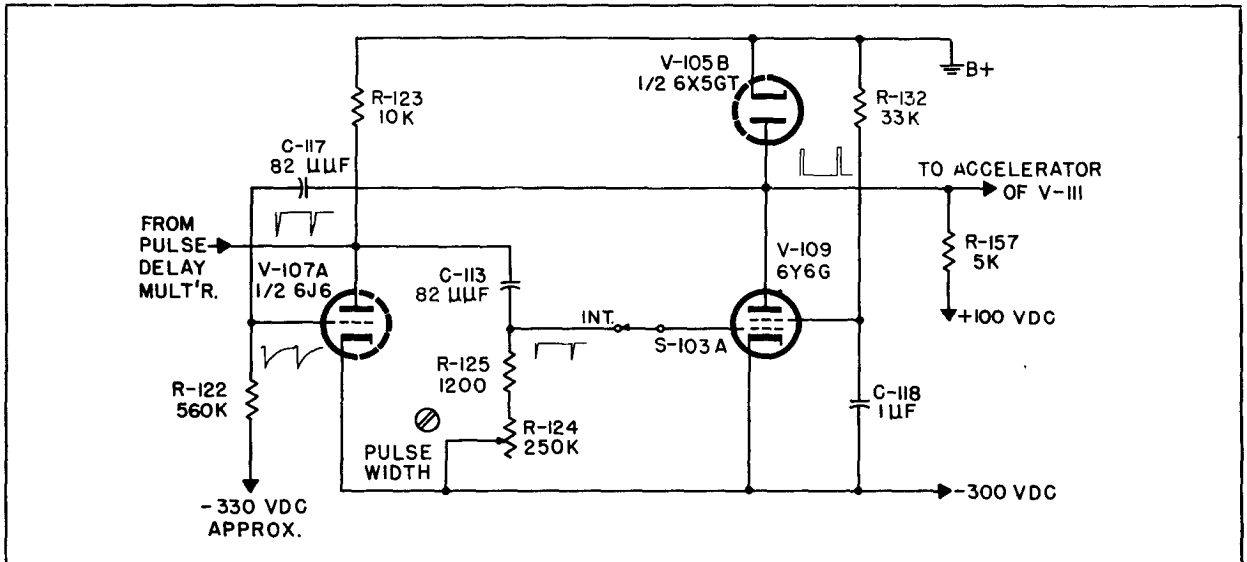

Figure 3-14. Signal Width Multivibrator
e. SIGNAL WIDTH MULTIVIBRATOR.-V-109 acts with V-107A as the Signal Width Multivibrator (figure 3-14). The function of this multivibrator is to generate
On internal modulation the negative pip obtained from the Delay Multivibrator is applied to the grid of V-109 (figure 3-14). V-109 operates with V-107A as a one shot multivibrator, the duration of its pulse being controlled by C-113 and the resistance in the grid circuit including R-124, the PULSE WIDTH control. R-124 is a 250,000-ohm potentiometer connected as a variable resistor and provides a range of control from approximately 0.5 to 10